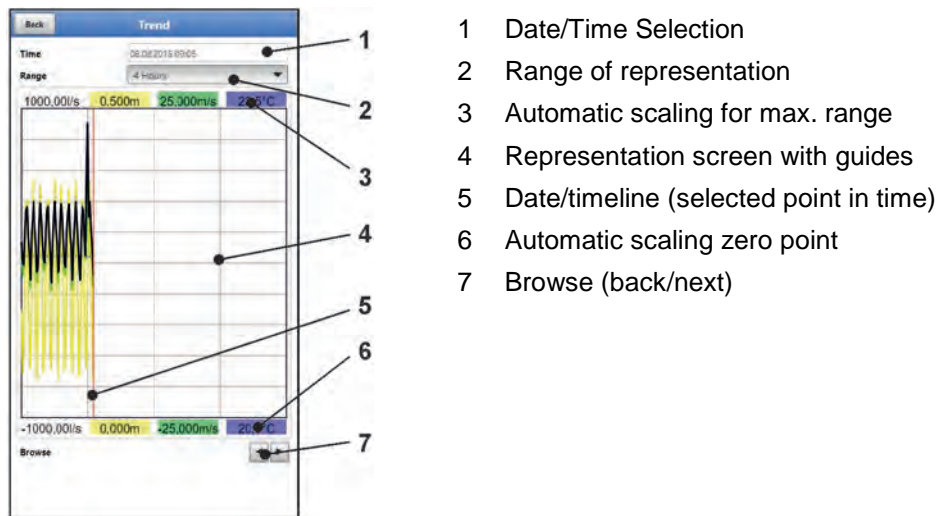

Fig. 40-2 Representation Trend Graph
1. Select the desired range (range of representation; Fig. 40-2 Pos. 2).
2. If necessary, use the arrows (Fig. 40-2 Pos. 7) to scroll forwards and backwards with the same basic display setting.
When the Trend menu is opened, the current date and time are displayed. If historical measurement data or a specific point in time is to be displayed, this can be set via the date/time selection (Fig. 40-2 Pos. 1). The selection mask shown below opens here (Fig. 40-3). If a start date is selected, (depending on the range set) the measurement data is shown in the display area below.